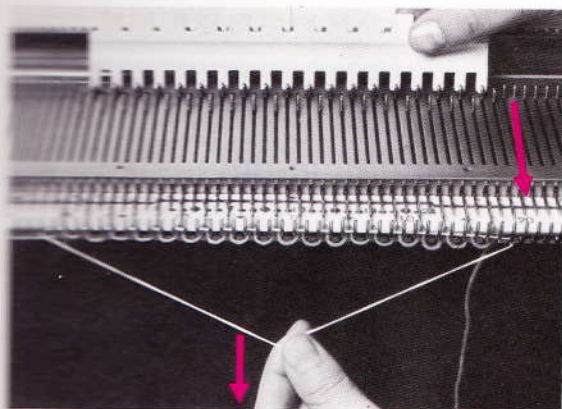

Fig. 49
- Still holding the removable cord, bring the 19 needles left in A position forward to F position (fig. 49).